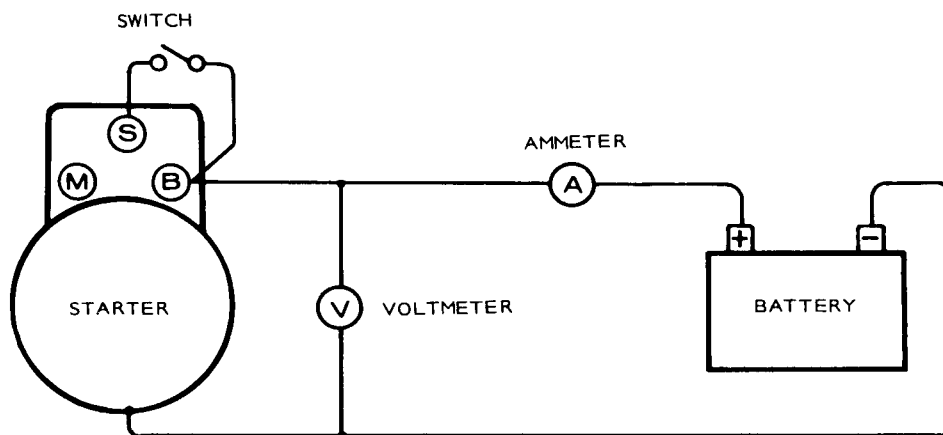

FIGURE 63. NO LOAD TEST
**No Load Test:** For this test connect starter as shown in Figure 63. The values of this test should be as follows: